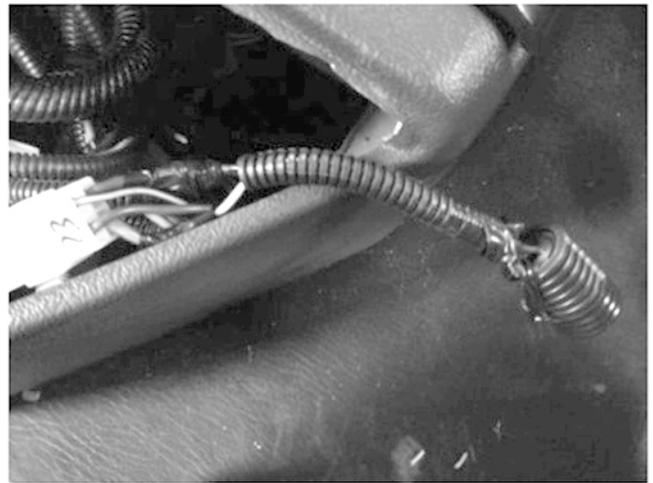

Figure 12-2
2. Splice in the capacitor to the purple and red wires with a soldering iron. Positive (+) to the red wire and Negative (-) or (black electrical tape) to the purple wire. Cable tie capacitor to the HVAC harness (see *Figure 12-2*).